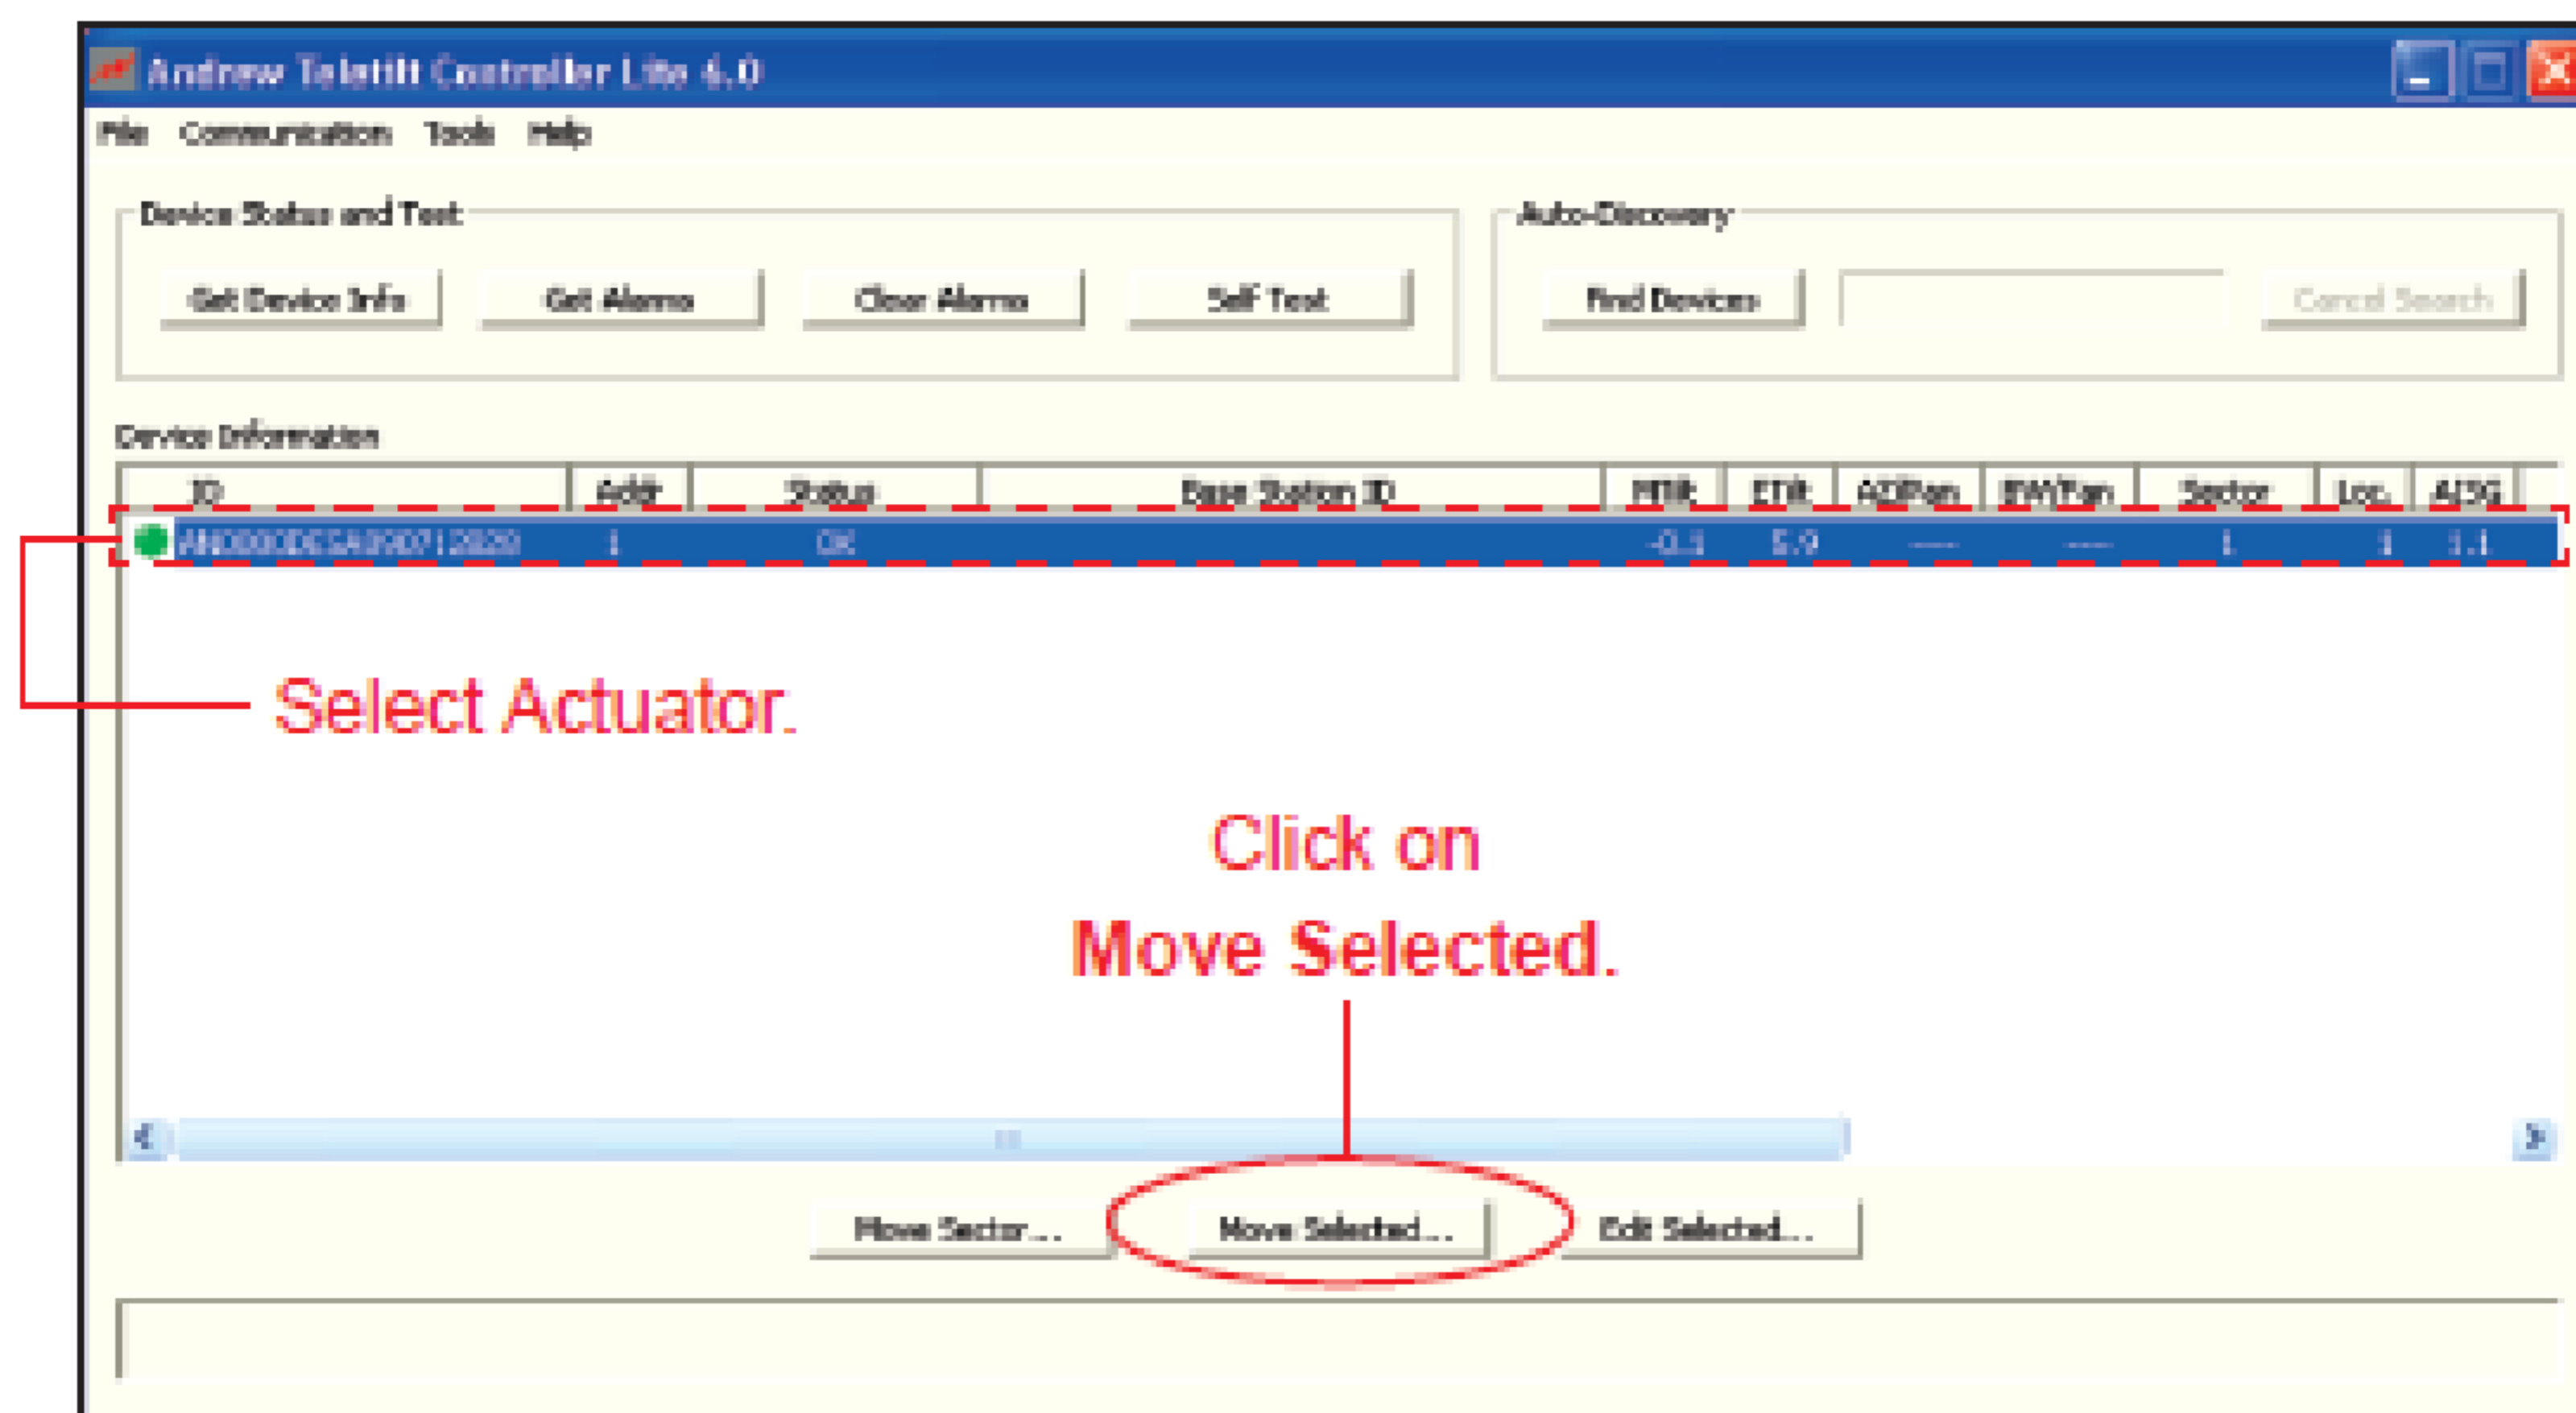
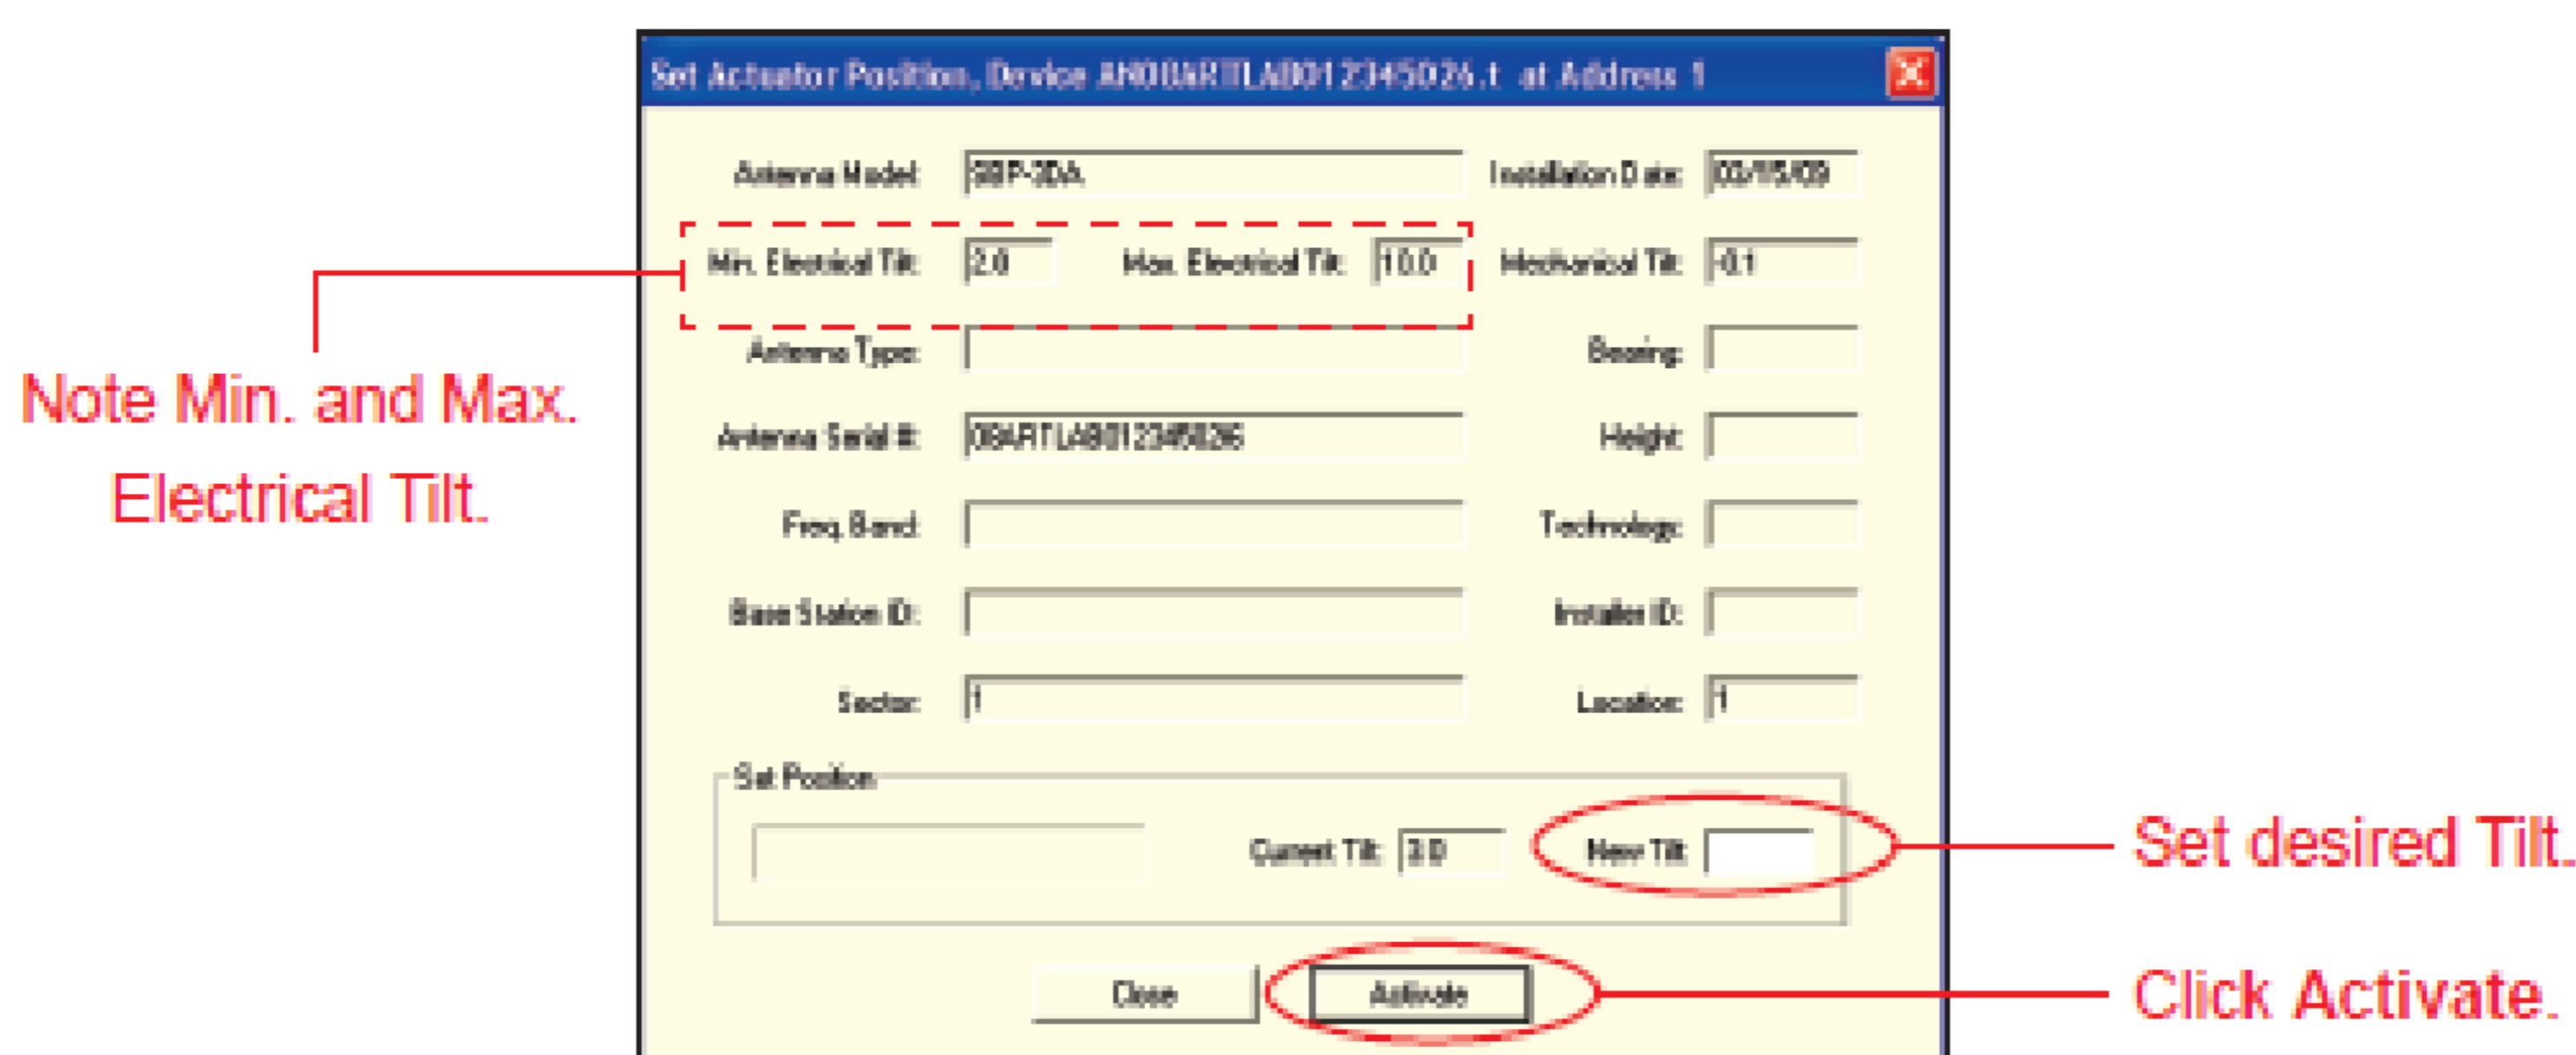

Figure 3-5. Selecting The Actuator To Be Tested.
Figure 3-6. Adjusting Tilt To Minimum And Maximum Settings.
- The actuator of the RET antenna is selected in Figure 3-5.
- With the tilt actuator selected, click on **Move Selected** (Figure 3-5) and move to the minimum and maximum tilt settings (Figure 3-6):
3. Verify the movement throughout the actuator's full range. See Figure 3-6.